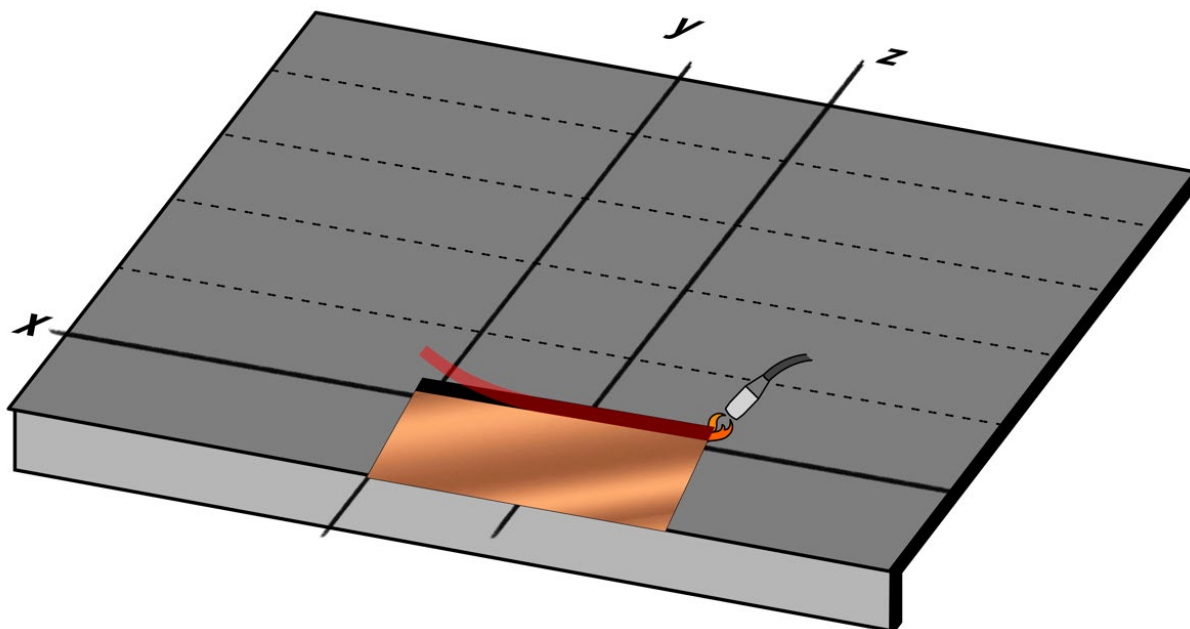

Fig. 18 - Starting row shingles installation by torch
- Proceed with the installation of the first row of shingles, placing them on the bituminous membrane already installed: align the lateral edge of the first shingle with the vertical axis **y** and the upper edge with the horizontal axis **x**. Secure the shingle to the membrane using the torch, while lifting the upper part of the shingle with the appropriate tool. Direct the flame towards the membrane to melt only the membrane itself. The underside of the shingle will only be heated – see Fig. 18. Then, lower the shingle and press it down (for example, by applying pressure with a foot) to assist the bonding of the bitumen from both elements: the shingle and the membrane.